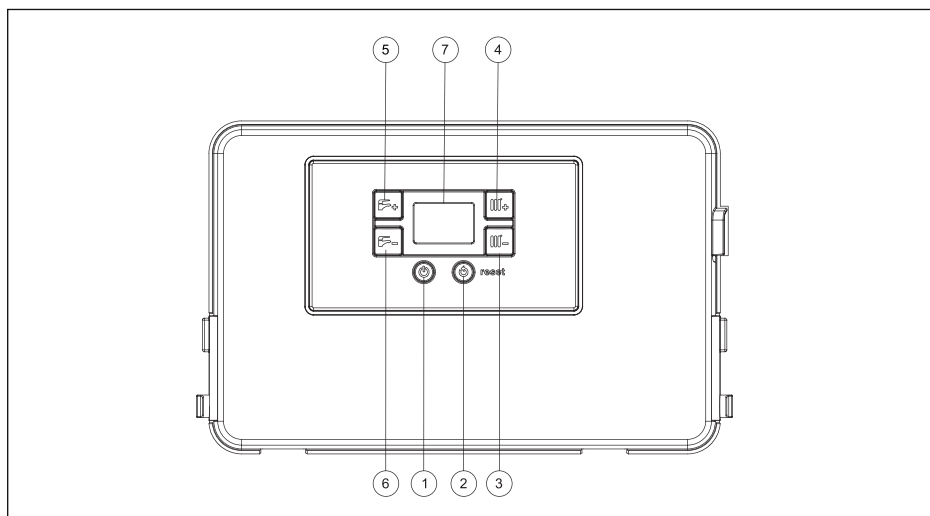

Figure 1. Control panel
Press key (1) (Figure 1) to operate your boiler in “SUMMER” mode and see only the tap symbol () continuously shown on the display. At this mode combi boiler only operates for the domestic hot water (DHW) system. The automatic ignition system lights the burner every time if there is a demand for DHW. The existence of the flame is shown with a flame symbol () on the display. During DHW usage, the tap symbol () on the display blinks.
In order to operate the combi boiler in “WINTER” mode, press key (1) (Figure 1) and see tap symbol () and radiator symbol () continuously shown on the display. At this mode combi boiler operates for the domestic hot (DHW) and heating (CH) systems. The automatic ignition system lights the burner every time there is a demand for both. The existence of the flame is shown with flame symbol () on the display. In this case, the tap symbol () on the display blinks when system operates for DHW and radiator symbol () blinks when system operates for CH.
In order to operate the combi boiler in “ONLY HEATING” mode, press key (1) (Figure 1) and see only radiator symbol () continuously shown on the display. At this mode combi boiler only operates for heating (CH) system. The automatic ignition system lights the burner every time there is a demand for CH system. The existence of the flame is shown with flame symbol () on the display. In this case, radiator symbol () blinks when system operates for CH.
- When electricity is supplied to the appliance, “OFF” word can be seen on the display. Pushing mode button **(1)** (Figure 1) leads to change the operating mode, every push changes mode sequentially between SUMMER-WINTER-ONLY HEATING-OFF.
- Check that there are no flashing numbers on the display **(7)** (Figure 1) (also see Section 2.8). If code E04 appears on the display **(7)** this denotes that there is no water in the boiler. Consequently, fill the system as described in Section 2.6.
The heating temperature is regulated by using keys **(3)** and **(4)** (Figure 1).
DHW temperature is regulated by using keys **(5)** and **(6)** (Figure 1).
This paragraph contains a list of error codes that the boiler may generate on the display (7) (See Figure 1) together with the relative indications and the operations that the user can carry out to reset the boiler.
- Turn off and then turn on the appliance using button (1) (Figure 1) on the control panel. Let the system ignite by itself, if **E01** error remains, retry to turn off and turn on the appliance once again. This action is taken in order to be sure if the gas in the pipes reached to the appliance.